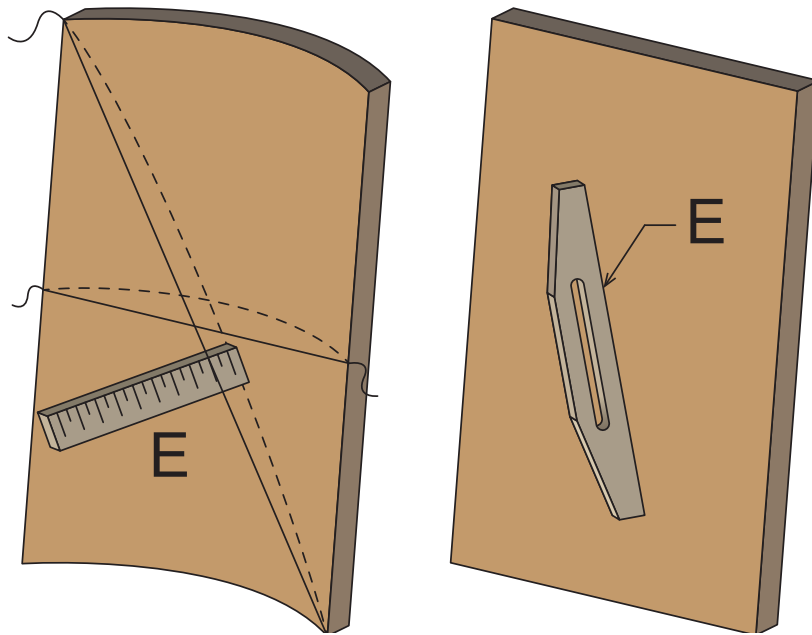

Figure 5 - Compliance Testing Measurement
- a) As a lineal ratio, per 305 mm [12"] in the diagonal, width, and/or length, warp of Product (See Figure 5, E) shall not exceed:
- b) Example: A panel with dimensions of 813 mm [32"] x 1219 mm [48"], as illustrated (See Figure 5-E) will have a diagonal measurement of 1465 mm [57.689"]. In custom grade, the maximum distance between the string and the face of the panel will be 5.8 mm. ($1465 \text{ mm} / 305 \text{ mm} \times 1.2 \text{ mm} = 5.8 \text{ mm}$ [$57.689" / 12" \times .047" = .226"$])